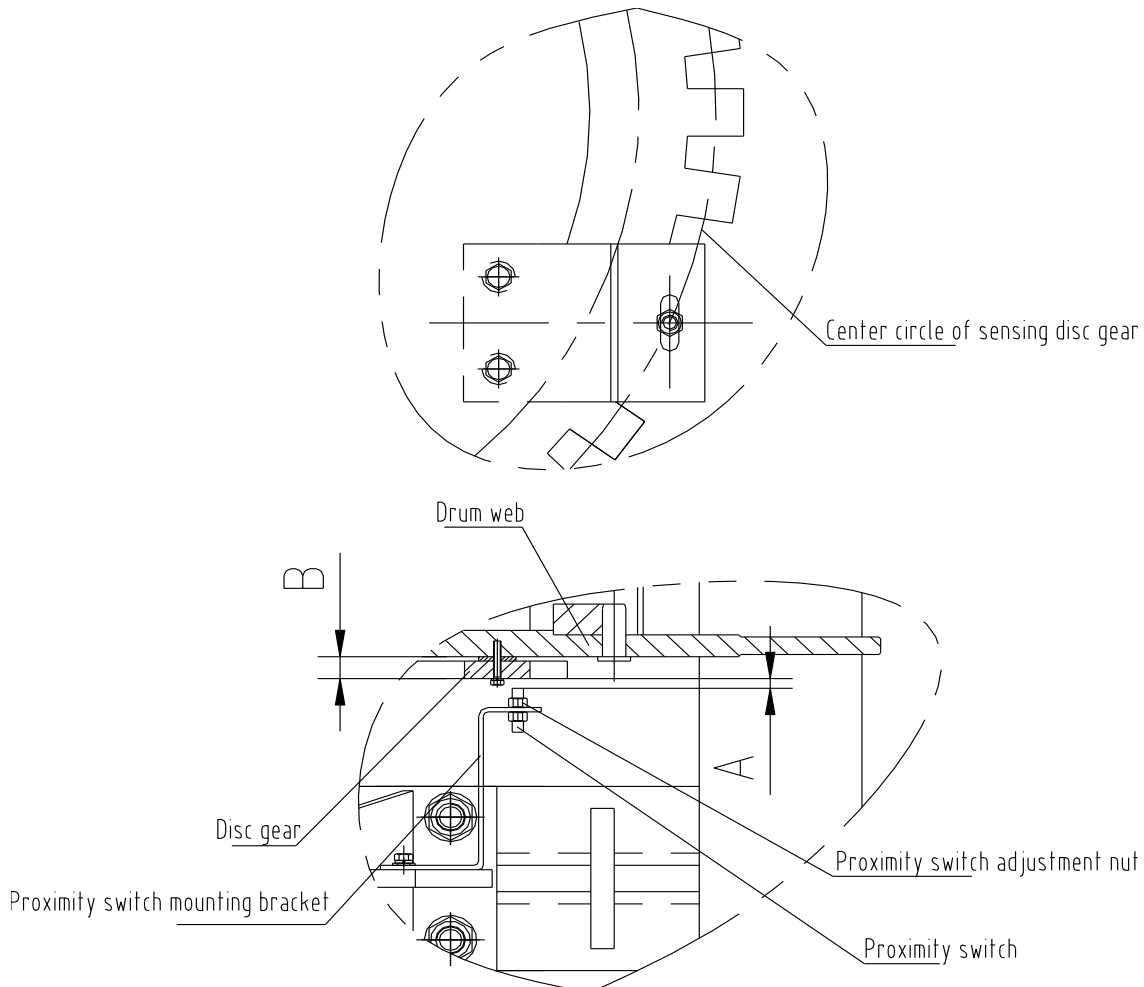

Fig. 6-17 Installation Diagram of Proximity Switch
The installation diagram of proximity switch is shown in Fig. 6-17:
- 1) Adjust the double nut on the proximity switch to make the distance between induction end of the proximity switch and the convex of disc gear to be 8mm, the check distance of the proximity switch to be 10mm, and the fixing position of the proximity switch to the check position to be 12mm (refer to Fig. 6-17);